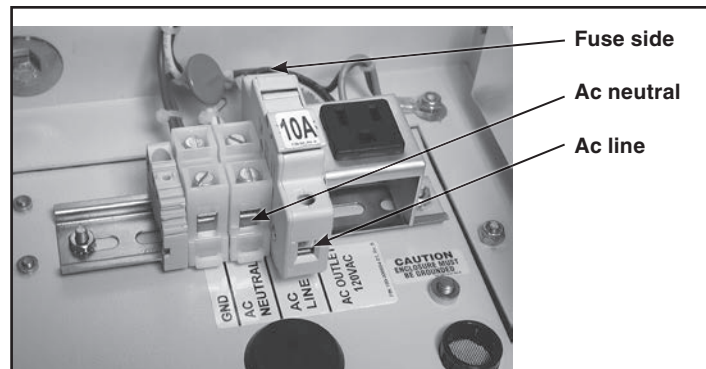

Figure 2. Test points for ac line and ac neutral measurements.
STEP 1. Check for ac power to the control. Check for ac voltage between the incoming-side test point of the ac line fuse holder and the ac neutral. See Figure 2.
STEP 3. Check the ac line and ac neutral wiring connections. Make sure the ac line wire is securely connected to the bottom of the ac line fuse holder. See Figure 2. Make sure the neutral wire is securely connected to the ac neutral terminal.
- (b) If 120 Vac is present at the ac line test point, check for voltage at the fuse-side test point. See Figure 2.